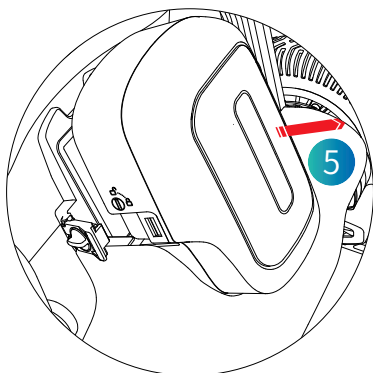

Figure 4.6.1.3
(3) In Step 3, remove the battery in the direction shown in the figure. (As shown on Figure 4.6.1.3)